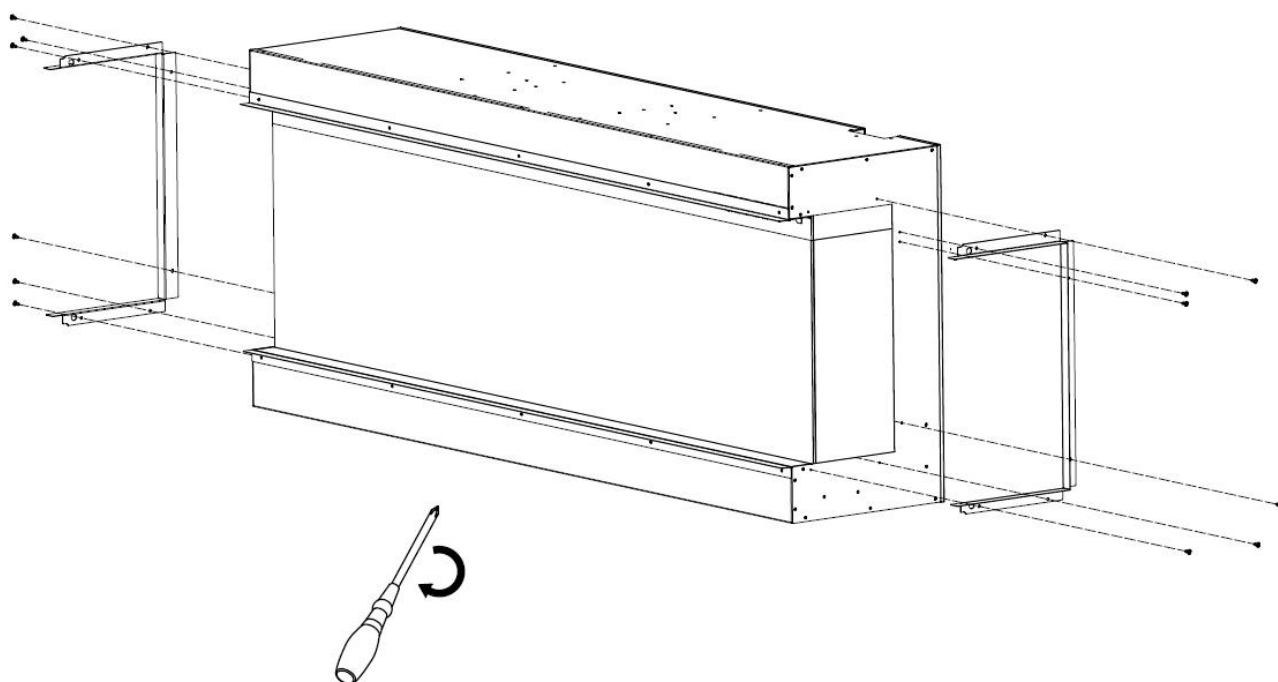

Fig.2-4
3.Fix back the fending bars after the panels are removed. Fig.2-4